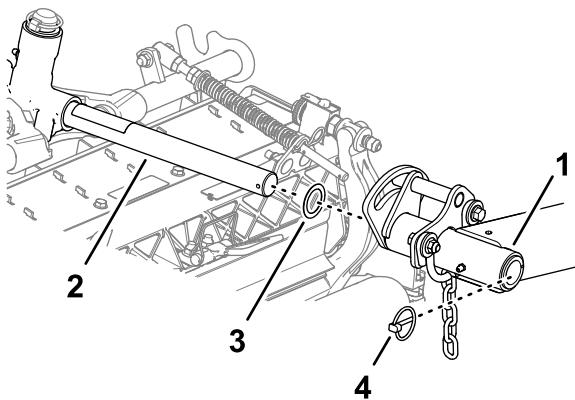

Figure 19
3. Slide a cutting unit under the lift arm (Figure 19).